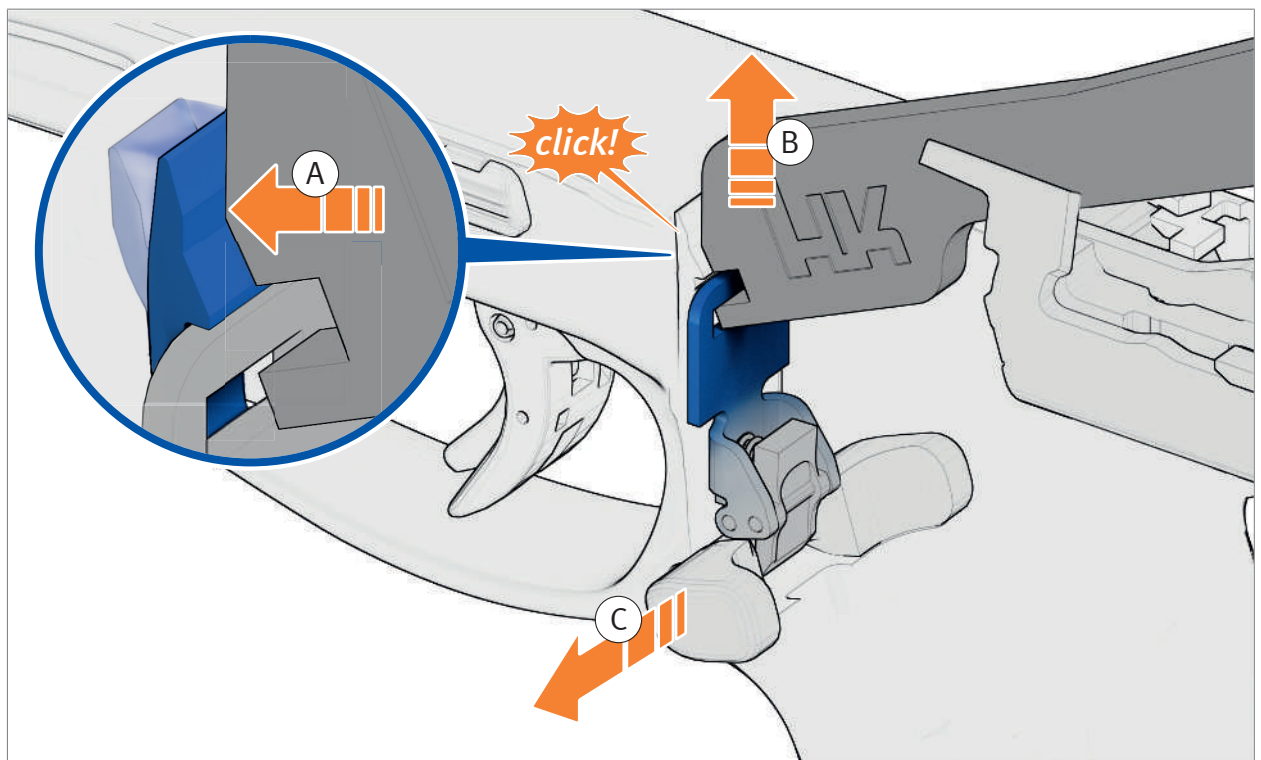

Fig. 34: Remove pushbutton
3. Push the latching clip in the frame forwards with the tool and then push the magazine catch upwards (Fig. 34). The magazine catch latches in.
4. Remove pushbutton (Fig. 34).